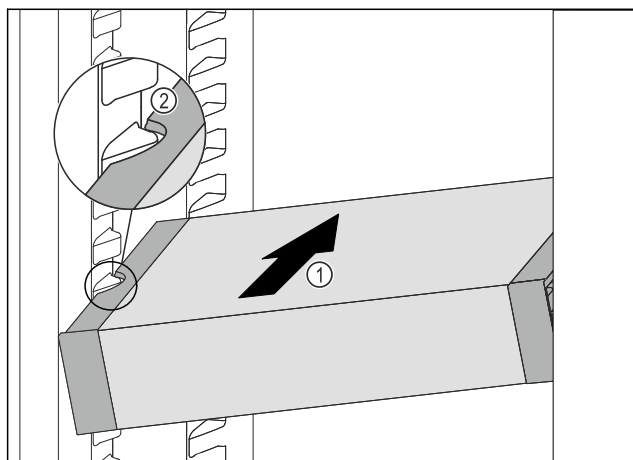

Fig. 128
- Insert the VarioSafe into the fridge section at an angle Fig. 128 (1) until the recesses in the side Fig. 128 (2) of the VarioSafe are at the level of the support rib in the fridge section.